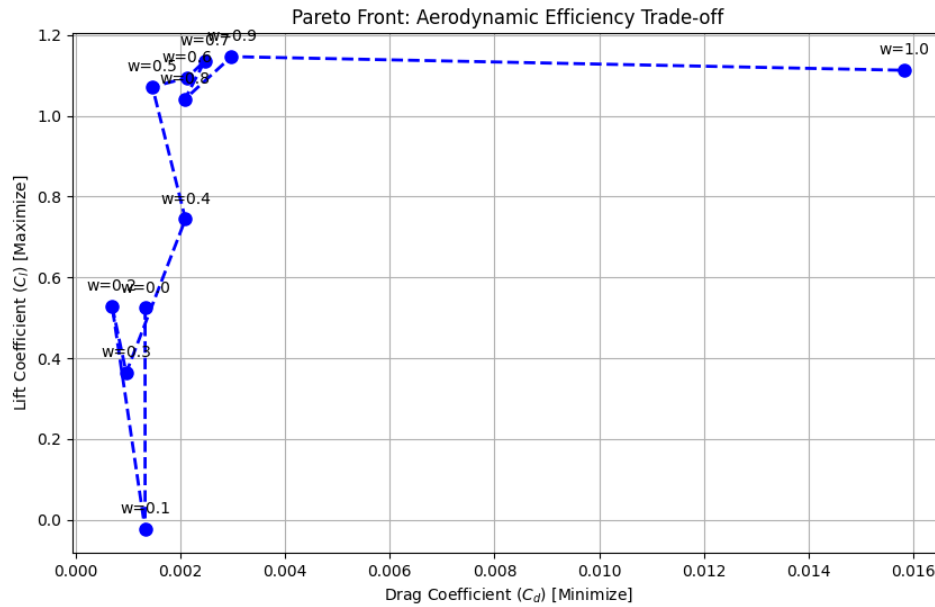

Figure 1: Pareto Front showing the trade-off between Lift (C_l) and Drag (C_d). Each point represents an optimal design for a specific weight w .
Pareto Analysis: The optimization was run with weights $w \in [0.0, 0.1, \dots, 1.0]$. The resulting Pareto Front is presented in Figure 1.
- **High w (Lift Critical):** The Pareto front (Figure 1) shows a clear trade-off. However, the maximum lift coefficient plateaus around $C_l \approx 1.2$ (estimated). This plateau likely indicates the active boundary of the stability constraint: pushing for higher lift would require excessive camber, violating the $|C_m| < 0.15$ limit.